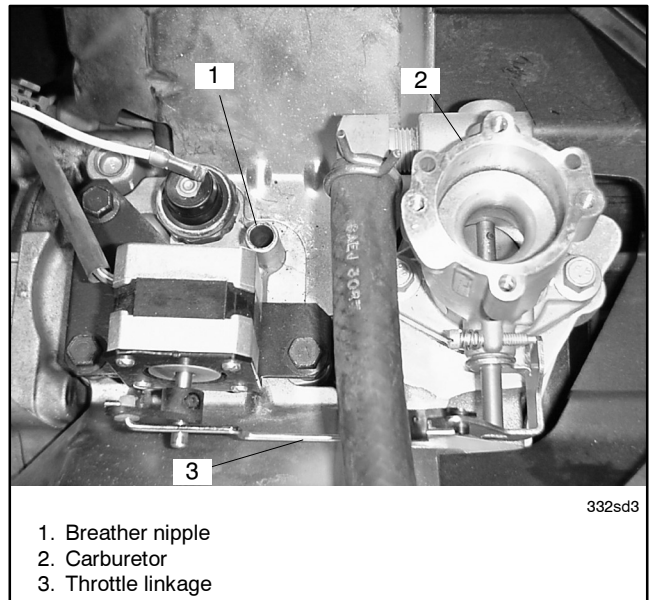

Figure 5 Engine Crankcase Breather Nipple
- 4.2 Place the heater on the carburetor without a gasket and adjust the angle of the breather tube to line up with the breather nipple on the engine crankcase. See Figure 5.